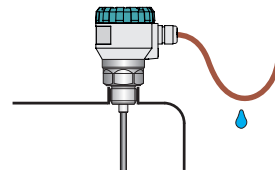

Fig. 15: Prevention to avoid intrusion of humidity through cable gland
- It is appropriate to lead the cable underneath the cable terminal (through the dip diagonally downwards) This will prevent potential **ingression of moisture through the cable grommet**. Thereby, rain and condensing water can flow away freely, fig. 15.